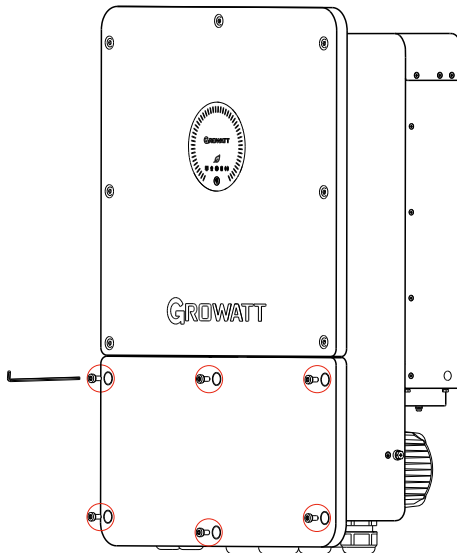

Fig 6.9 Right cover
1) Open the lower cover and the cover position is shown in Fig 6.9;